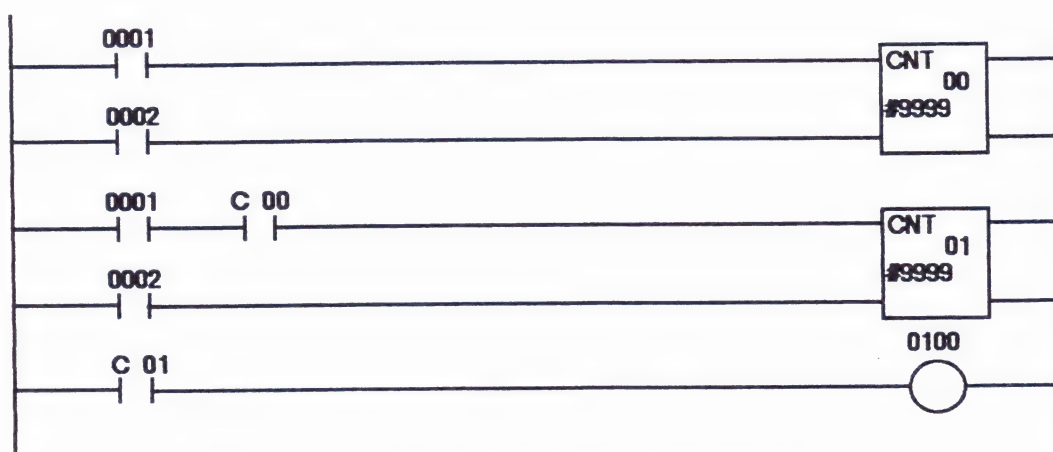

Figure 4.35 Cascading Counters
A count value greater than 9999 may be achieved by cascading two or more counters as shown in Figure 4.35 below.
By using the same type of logic used in a Cascading Counter (see Figure 4.35 above), the operator can create a Prescaling style counter. This type of counter operation prescales the counts of one (1) input to equal a prescribed amount of counts for a second counter. For example, 10 counts of Counter 00 equals 1 count of Counter 01.